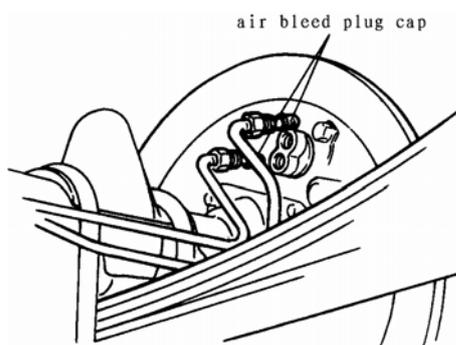

FIG.16-41
(3) Remove wheel cylinder mounting bolts and put wheel cylinder breather plug cap onto pipe to prevent fluid from spilling. (FIG.16-41)